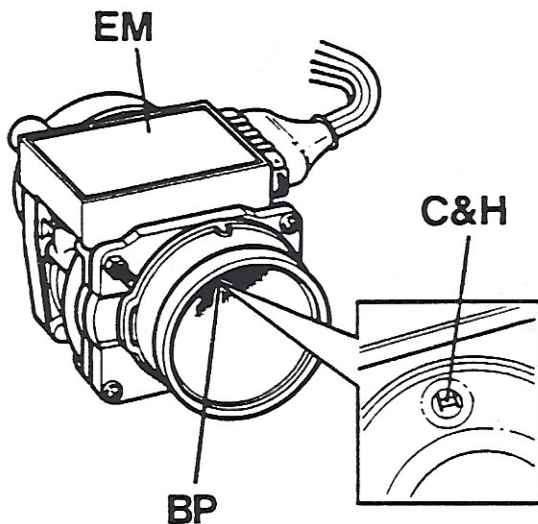

fig.36
The air flow meter has a cast alloy body with an electronic module (EM) mounted on top (See Figure 36). A small by-pass port (BP) in the top of the air intake contains two sensing wires (C & H) which are connected to the electronic module which, in turn, is connected to the ECU.